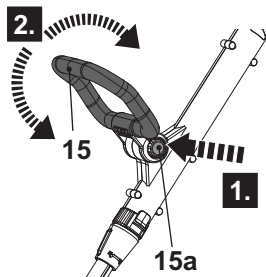

Fig. 5
1. Press down the lock button (15a) and hold it in position, then rotate the auxiliary handle (15) upward or downward to adjust the angle (Fig. 5).